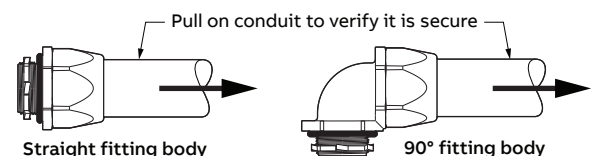

Figure 4
4. Firmly pull on the conduit to verify it is securely attached to the fitting and a full insertion is accomplished, see figure 4.